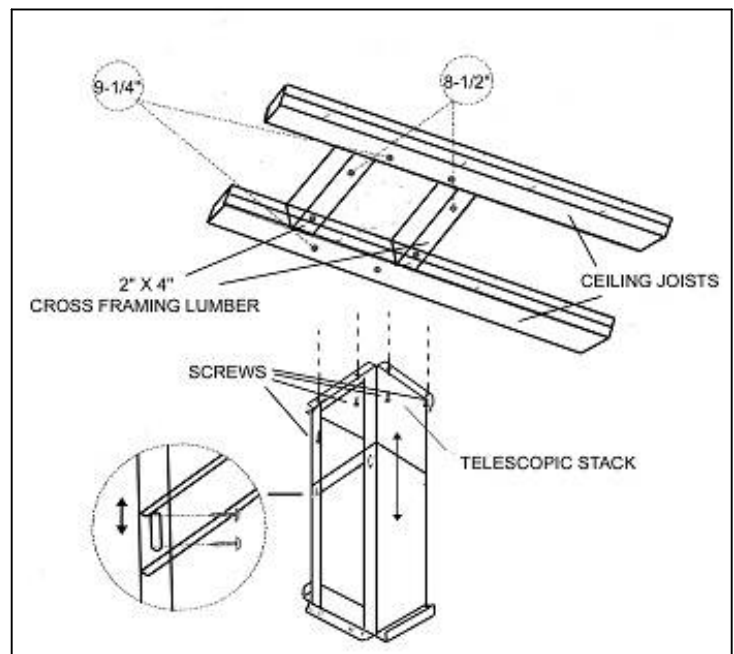

Figure 3
2. Remove and save template. Cut and remove ceiling drywall. Install 2" x 4" cross framing lumber (not provided) between ceiling joists. Refer to Figure 3. Consult a professional if you have difficulty or your installation is unique.
4. Attach the telescopic stack to the ceiling and securely fasten to the joists and cross framing with eight screws (not provided) as shown in Figure 3. Make sure screws are driven into center of joists and cross framing for maximum support.